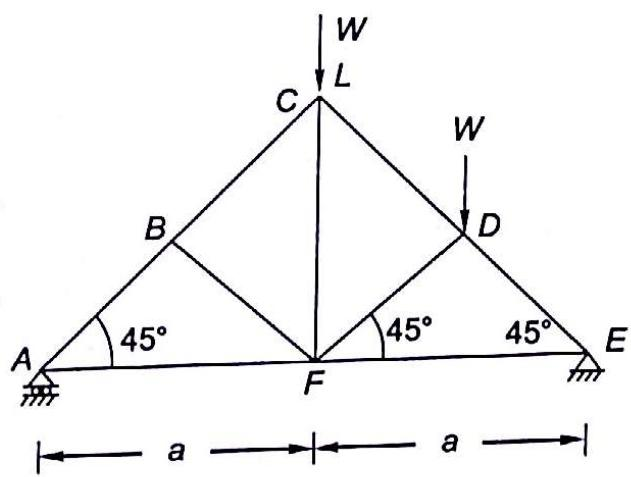

Fig. 4.31
4.2 A truss ABCDEF carries vertical loads W each at joints C and D . What is the magnitude and nature of force in member AB (Fig. 4.31)?